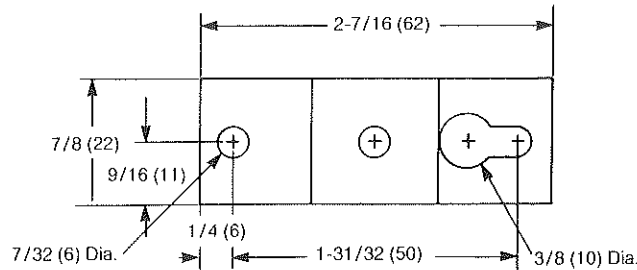

Figure 2. Mounting Bracket Dimensions
2. Drill mounting holes in subpanel per dimensions shown in Figure 2 or use mounting plate as a template.
3. Secure mounting plate with field supplied screws or use two (2) push-in fasteners provided if metal perforated subpanel is used.